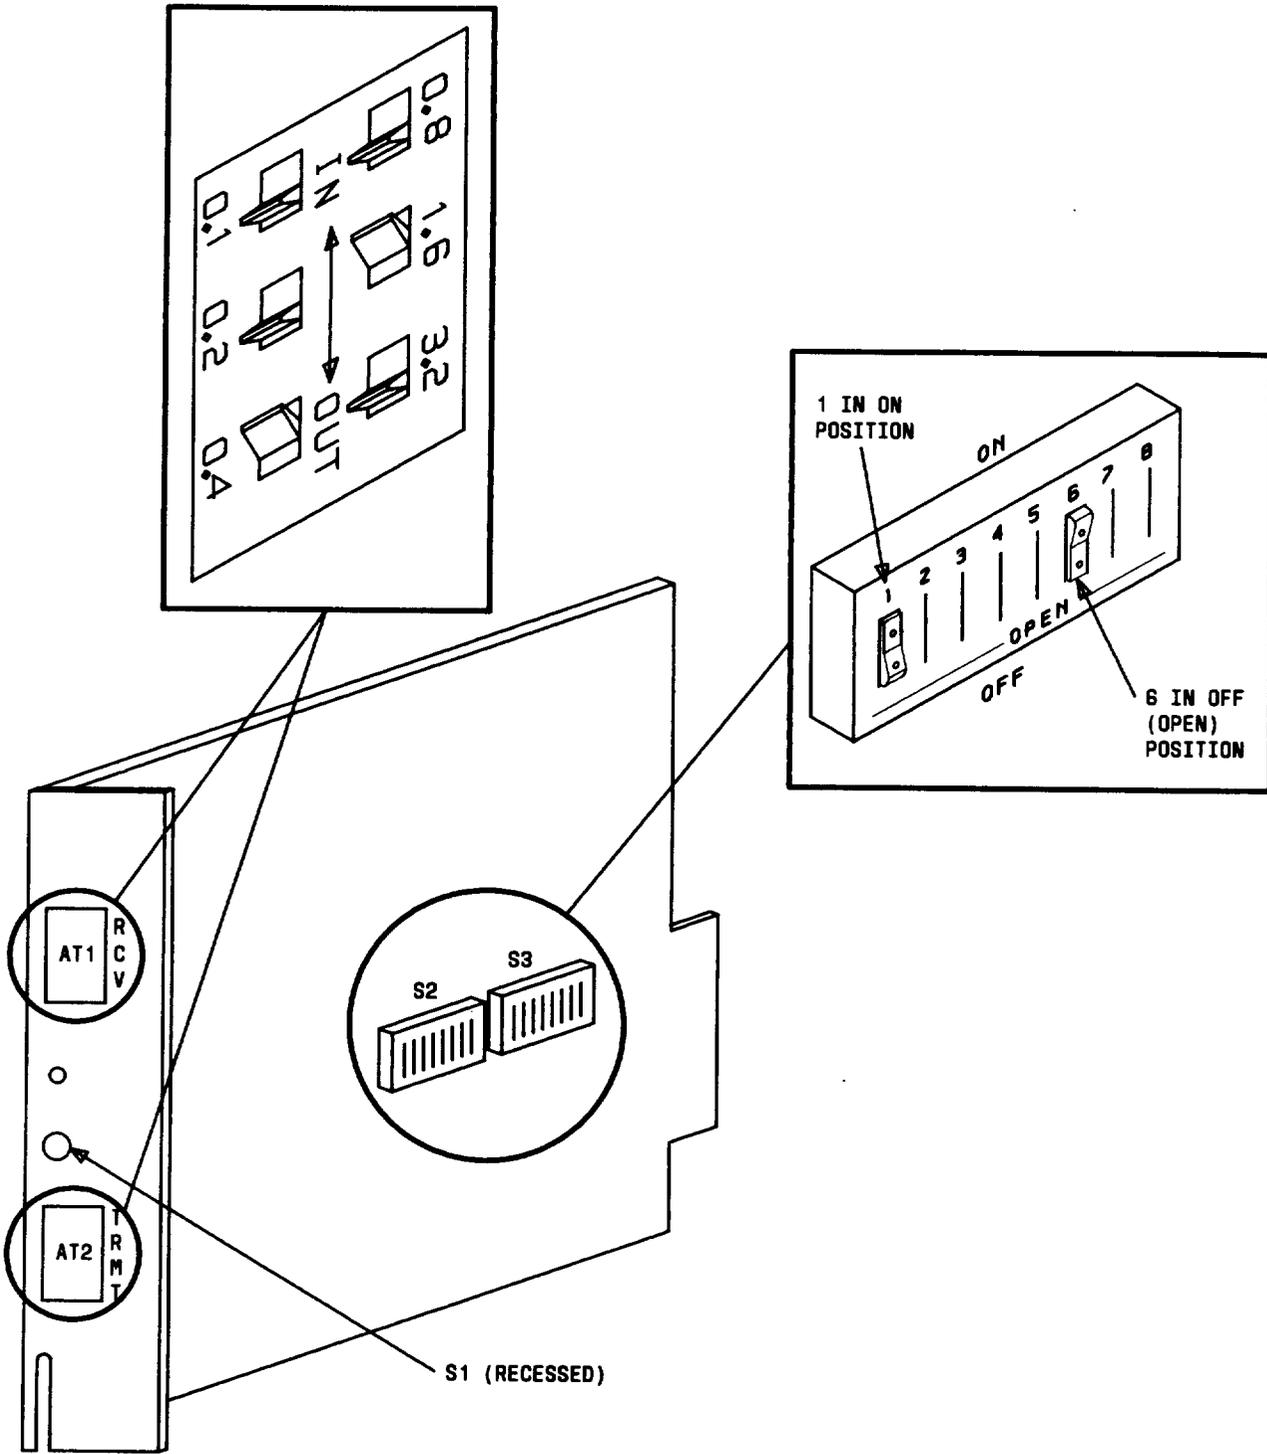

Fig. 3—Switch Locations and Settings
**3.03** Two DIP (dual in-line package) switch assemblies control the various options available and must be set to conform to circuit requirements. The location of the switches is illustrated in Fig. 3. The options available, and the effect of the settings on the circuit, are listed in Tables B, C, and D. Table D, provided by the International Engineering and Operation Organization, lists the switch settings associated
**3.04** Two attenuation pads are located on the front of the transceiver (Fig. 3) to build out the channel bank-to-VIU trunk loss to -3 dB TLP (transmission level point). Each pad should be set for -3.2 dB upon installation. The 5B insertion loss is 6.8 dB in the receiving direction and 9.8 dB in the transmitting direction. Later, cross-office tests may require the settings be modified. Pad settings are illustrated in Fig. 3.